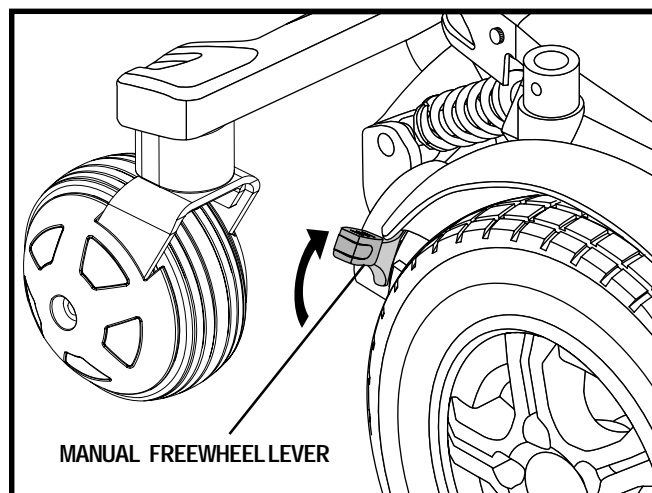

Figure 9. Drive Mode (Drive Engaged)
2. Pull up both manual freewheel levers for drive mode (drive motor engaged). See figure 9.